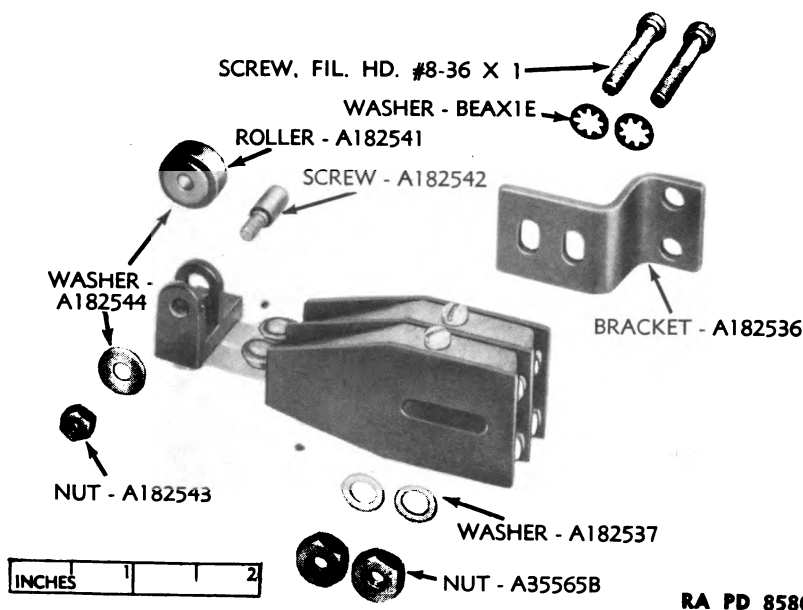

Figure 82 — Elevation Limit Switch Contact Block Assembly C78445
b. Set vertical deflection to zero and pull out clutch knob. Turn handwheel until the elevation dials read 85 degrees. Loosen the two screws which hold the molded block of the switch to the switch bracket (fig. 82) and move it forward or back until the roller touches the lug on the segment and just commences to open the contacts. Tighten the screws.